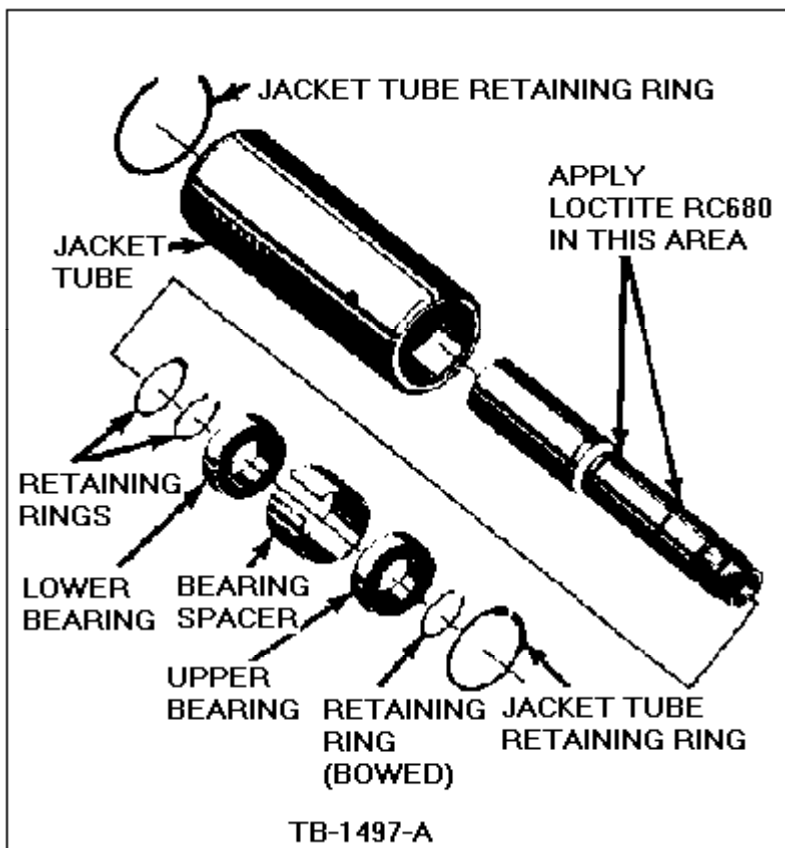

Figure 30 - Article 90-5-10
10. Tighten the two (2) set screws to 15-25 lb.in. (2-3 N-m).
11. Assemble the retaining ring onto the groove on the large diameter of the wheel tube and splined sleeve assembly and to the groove in the small diameter that is closest to the large diameter, Figure 30.
12. Evenly apply Loctite 262 Thread Locker around the wheel tube in the lower bearing support area and push the new lower bearing against the retaining ring on the wheel tube, Figure 30.
15. Install the bowed retaining ring, Figure 30.
17. Install the retaining rings in their grooves on the jacket tube, Figure 30.